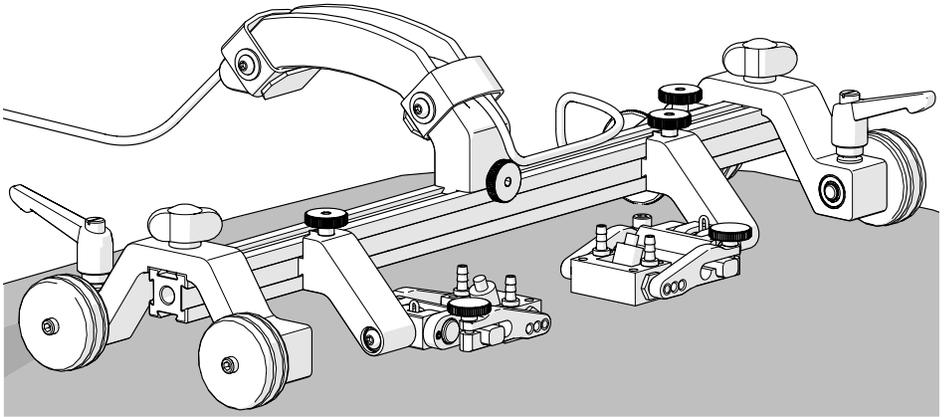

Fig. 52 - Prepared for scanning
6. The spring-loaded probe holders are designed to maintain wedge contact with the scan surface (Fig. 52), and the encoder is designed to maintain contact pressure on the scan surface for an accurate reading.